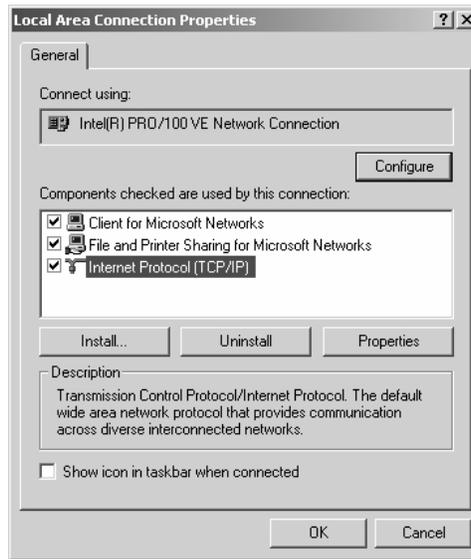

Figure 116: Local Area Connection Properties
3. Right-click the Local Area Connection icon that represents the network adapter that connects the computer to the remote terminal and select *Properties*. The Local Area Connections Properties window appears. See Figure 116.